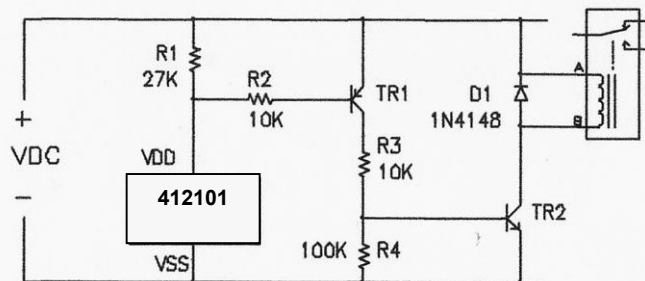

Figure 7
Fig 7. The relay coil is energised when light > Slux. In this case the quiescent current is low in dark conditions because TR1 is switched OFF at the same time as TR2 and the relay coil. The customer can control the current to the application and the quiescent current by choosing a normally open (NO) or normally closed (NC) relay.